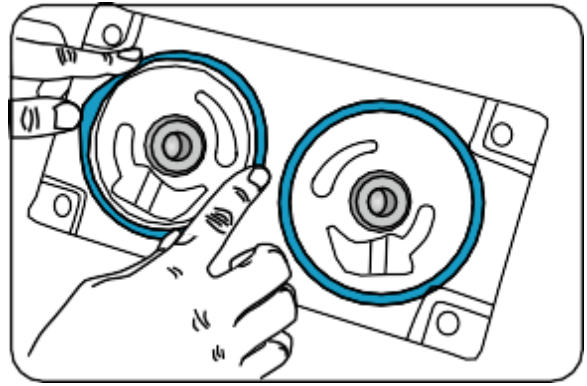

Figure 28
10. Place door gaskets onto freezing cylinder door. (Figure 28)